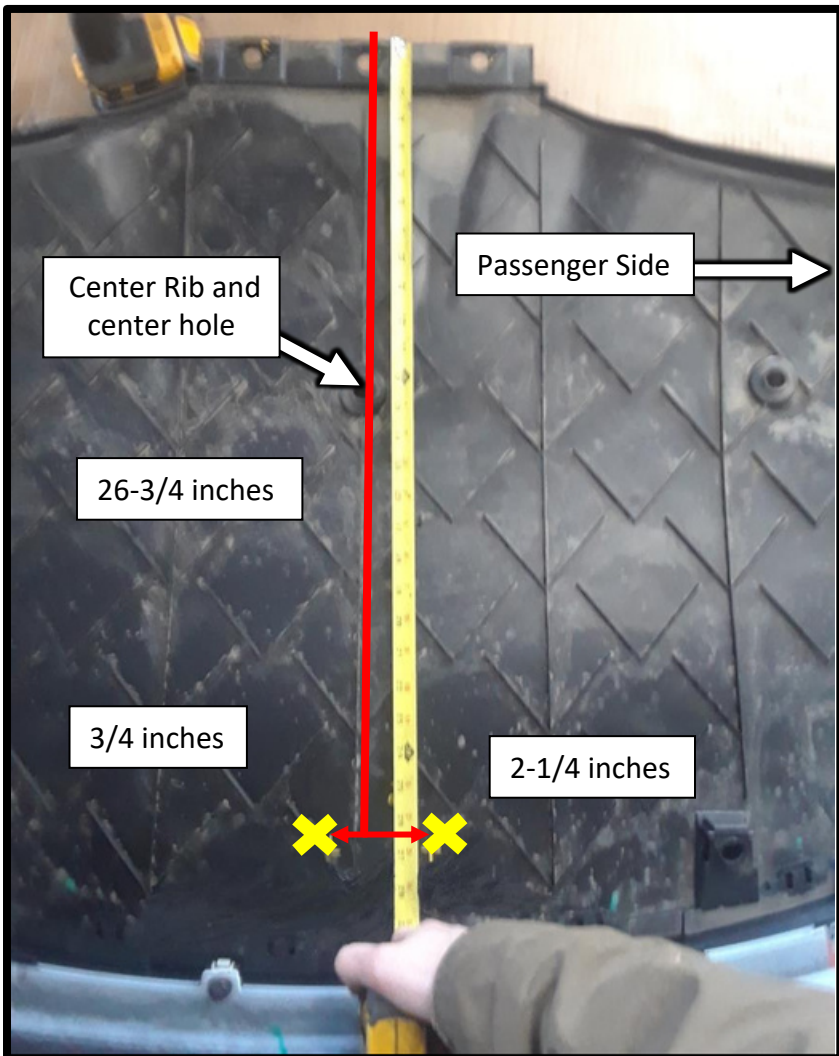

Figure 10.1
- Measure from the front of the plastic 26-3/4 inches along the center rib, if using a 3-1/2 inches hole saw. More hand clearance is possible if using a 4-inch hole saw but measure 26-1/2 inches. See figure 10.1.
- Mark two points to use as start holes. Mark 3/4 inch from the center towards the driver side and 2-1/4 inches towards the passenger side. See figure 10.1 for details.